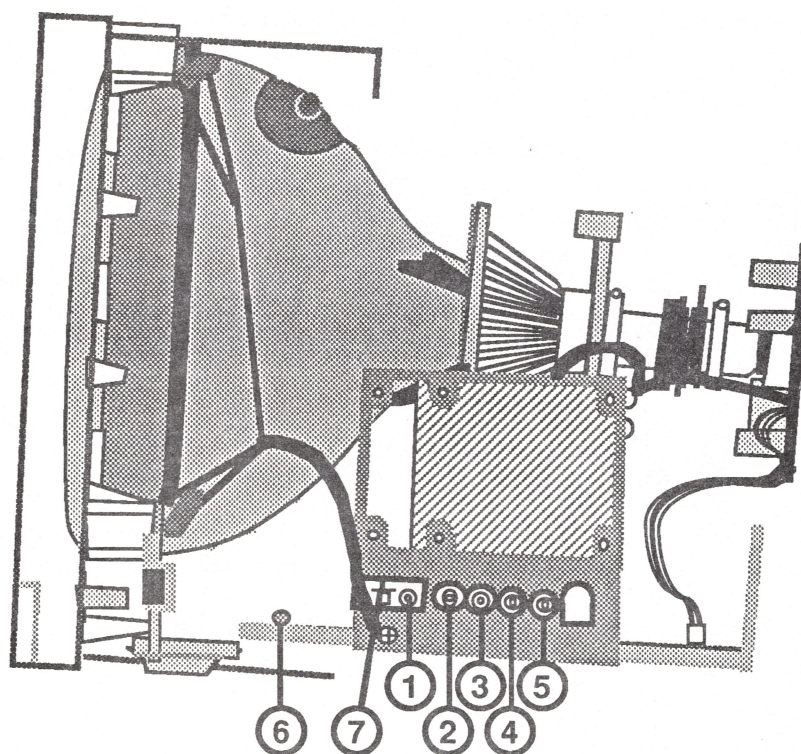

FIGURE 5
11. Locate the internal color controls behind the power supply board (Figure 5). **WARNING: THE POWER SUPPLY BOARD HAS EXTREMELY HIGH VOLTAGES. USE THE INSULATED TOOL IN ONE HAND ONLY, AND WATCH WHAT YOU ARE TOUCHING!**
- a. **R-DRIVE** (red) - Figure 5, #1